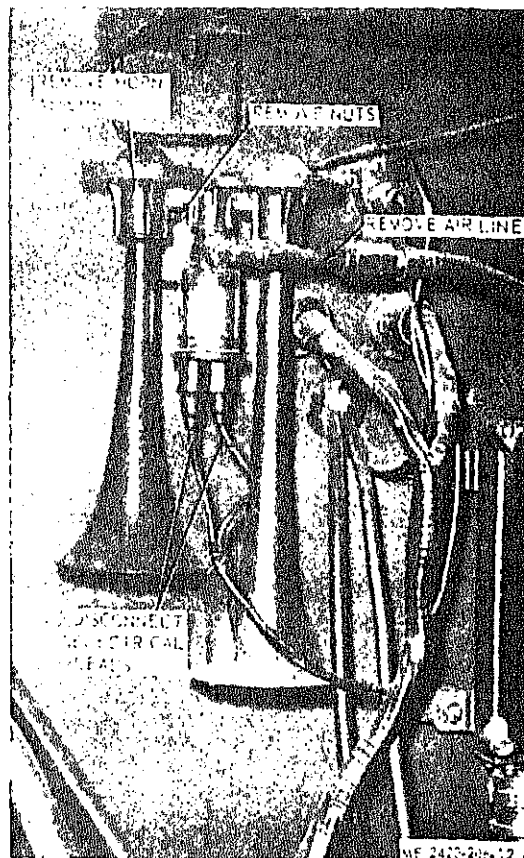

Figure 4-43. Air horns, removal and installation.
a. Removal. Remove air horns as illustrated in figure 4-43.
(1) Wipe parts with a cloth and dry thoroughly.
(2) Inspect for cracks, breaks and damage. Replace defective parts as necessary.
c. Installation. Install air horns as illustrated in figure 4-43.